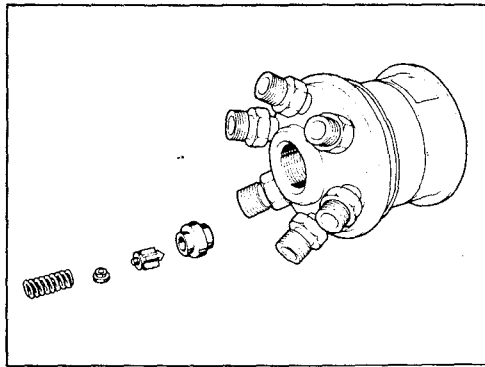

FIGURE 1-31
(17) Remove delivery valve spring, spring seat, delivery valve and valve body by inverting the head. Refer to Fig. 1-31.